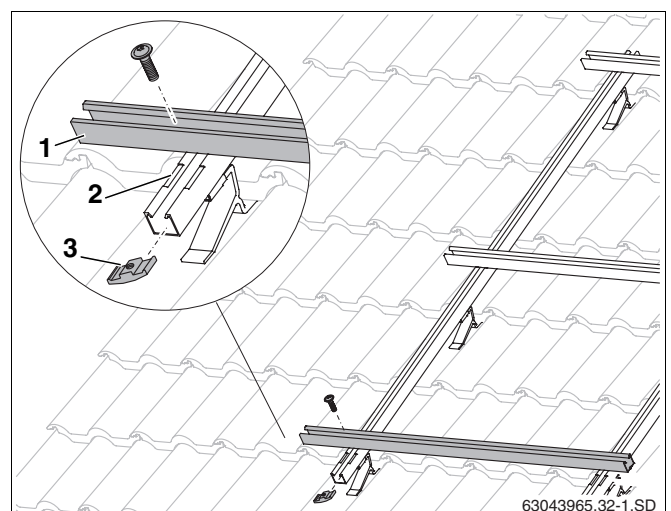

Fig. 30 Fitting landscape profile rails
- ▶ Place the profile rails (Fig. 30, **Item 1**) into the indentations (Fig. 30, **Item 2**) on the snow load profiles and loosely fasten using bolt and sliding nut (Fig. 30, **Item 3**) so that the profile rails can still be aligned.